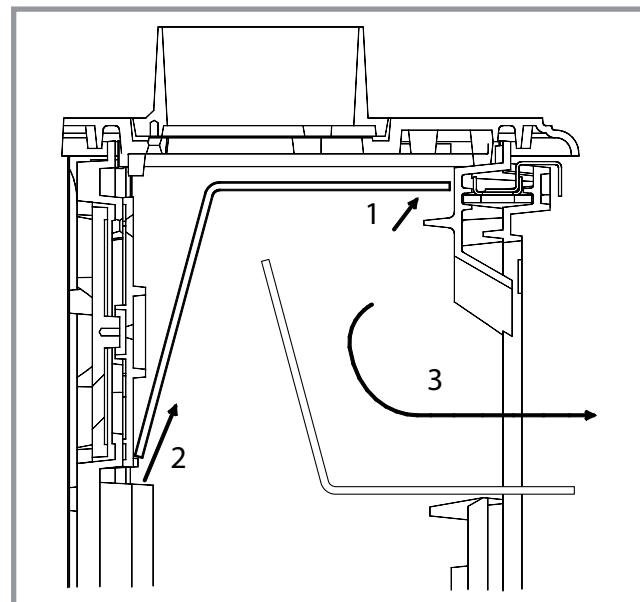
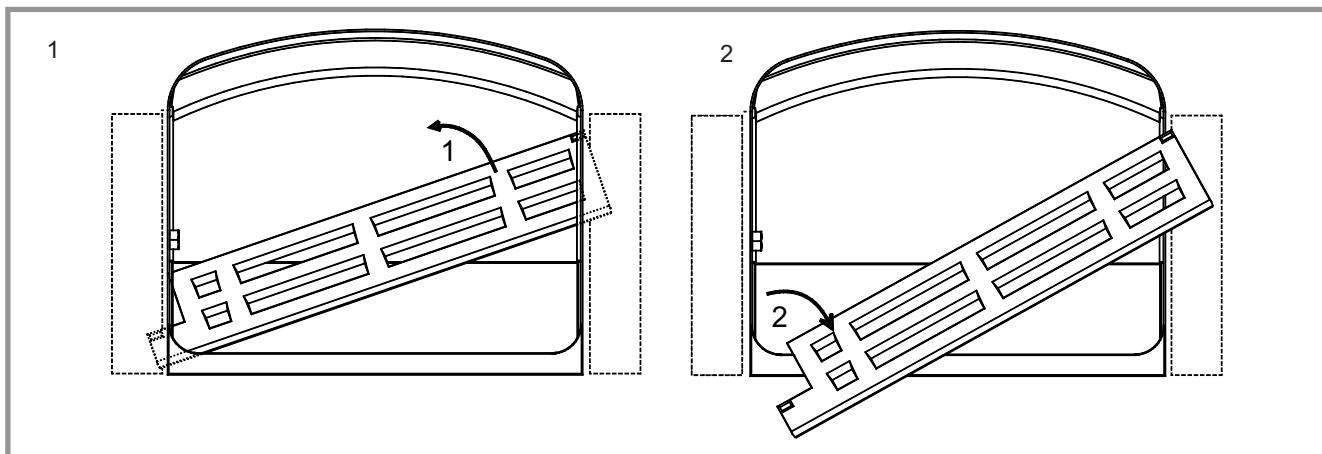
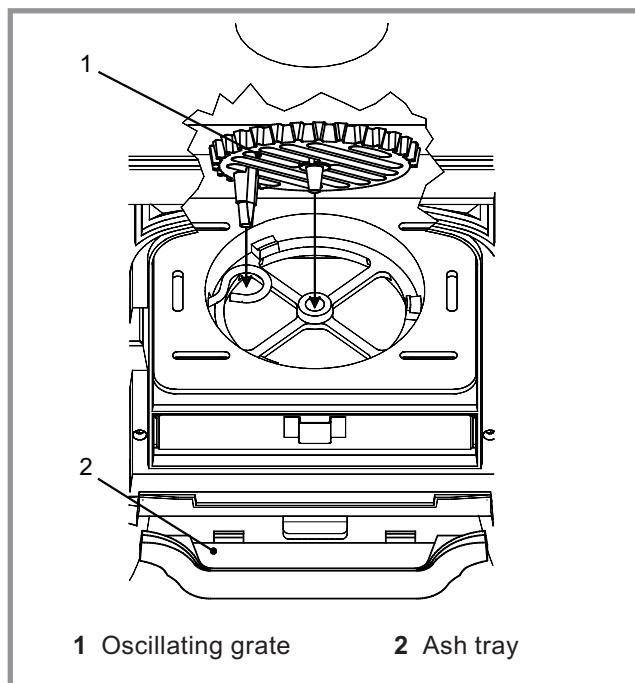

Figure 3 - Removing the flue baffle
Figure 9 - Removing the fuel retainer
Figure 10 - Mounting the oscillating grate and the ash tray
- Check that all removable parts are correctly installed (fuel retainer (fig. 9), oscillating grate (fig. 10), baffle (fig. 3) etc...)
- Fit the ash tray, located in the ash pan, between the front legs (rep. 2, fig. 10).